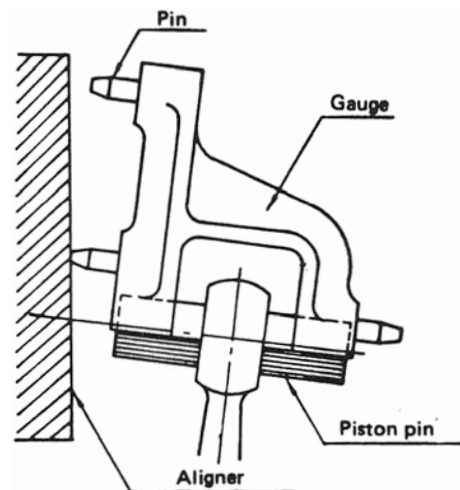

Figure 21
2. Measure the large-end and small-end twist and straightness by using a connecting rod alignment fixture, Figure 21. If the measured value exceeds specified limits page 29, install a new connecting rod.